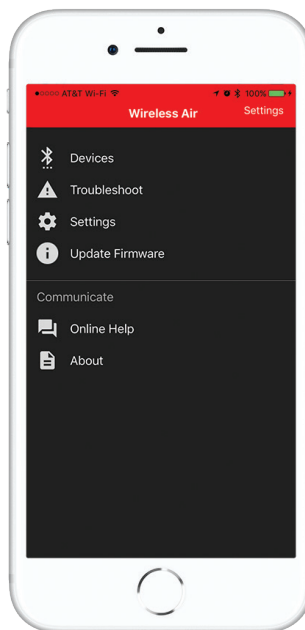

fig. D.1
1. The Navigation screen (Fig. D.1) has these options: